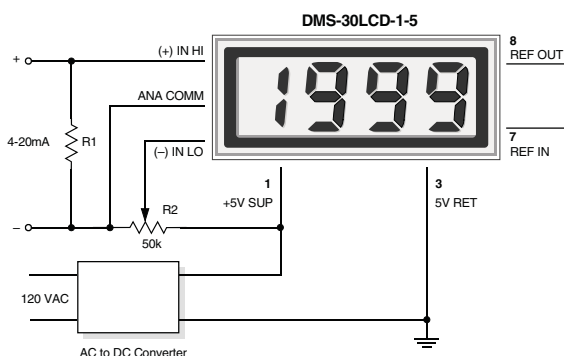

**Figure 7. 4-to-20mA Current Loop Operation
- 5. Process Control (4-to-20mA) Measurements:** In many common process-control applications, a 4-to-20mA current loop is used to transmit information. Because DMS-30LCD meters have such high input impedance, a simple shunt resistor across the meter's input can be used to convert the loop current to a voltage. See Figure 7. The value of the shunt resistor is a function of the scaling requirements of the particular application and can be calculated using the following equation:
To calibrate the circuit of Figure 7, perform the following: